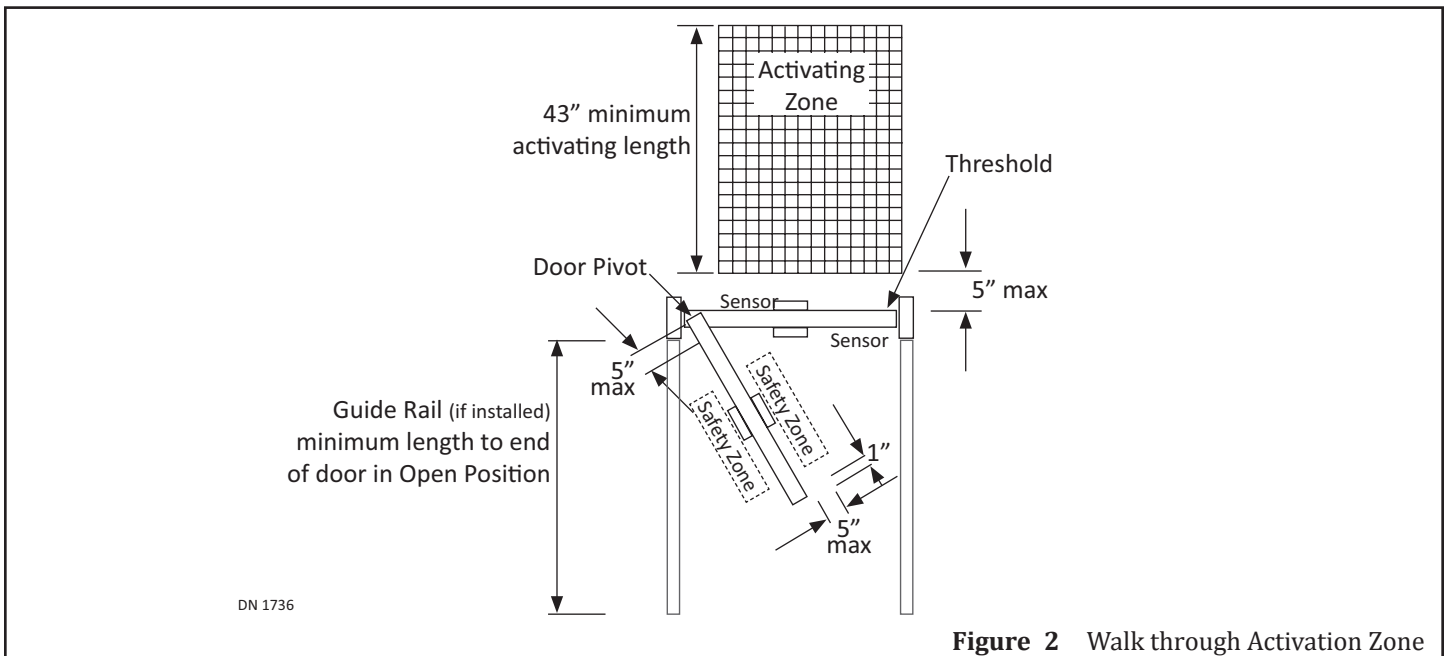

Figure 2 Walk through Activation Zone
- b. If the door is equipped with a door mounted presence sensor, the door may start to open but should reverse, stop, or slow down. Please see Figure 2.